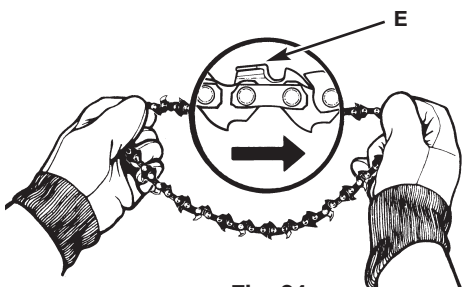

Fig. 24
1. Spread chain out in a loop with cutting edges (E) pointing CLOCKWISE around loop (Fig. 24).